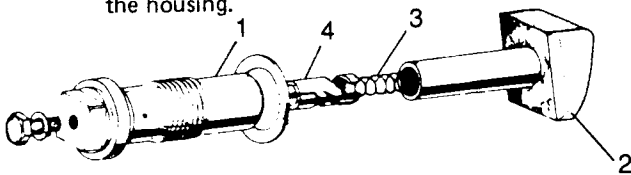

Fig B4.102
- (13) Refer to Fig B4.102. Unscrew the tensioner body (1) from the engine block.
2. To replace the chain tensioner: (Fig B4.102 still applies).